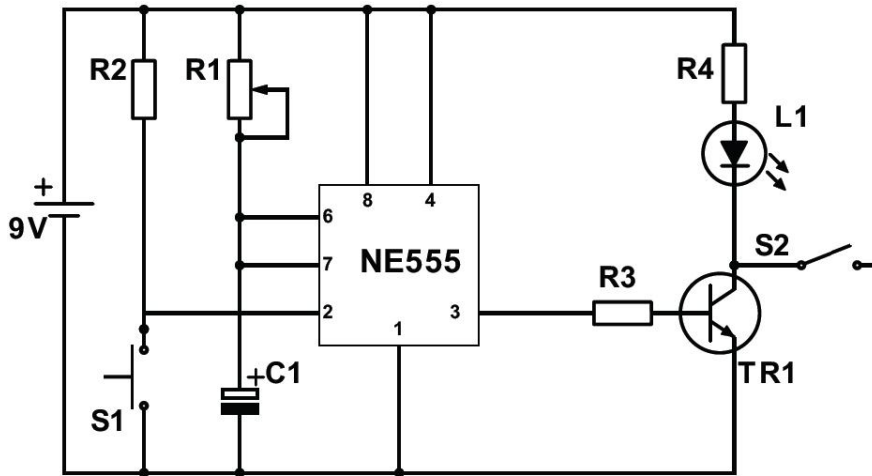

Figure 7
The circuit in Figure 7 was modified.
- c. Join the second terminal of switch S2 to the circuit in Figure 7 to turn **ON** L1 indefinitely. (Draw solution on Figure 7) (3)
- d. It was noted that one LED did not emit enough light to illuminate the storage compartment and a second LED needs to be added. Draw a second LED, in parallel to L1 on Figure 7 to increase the brightness of the system. (Draw solution on Figure 7) (3)